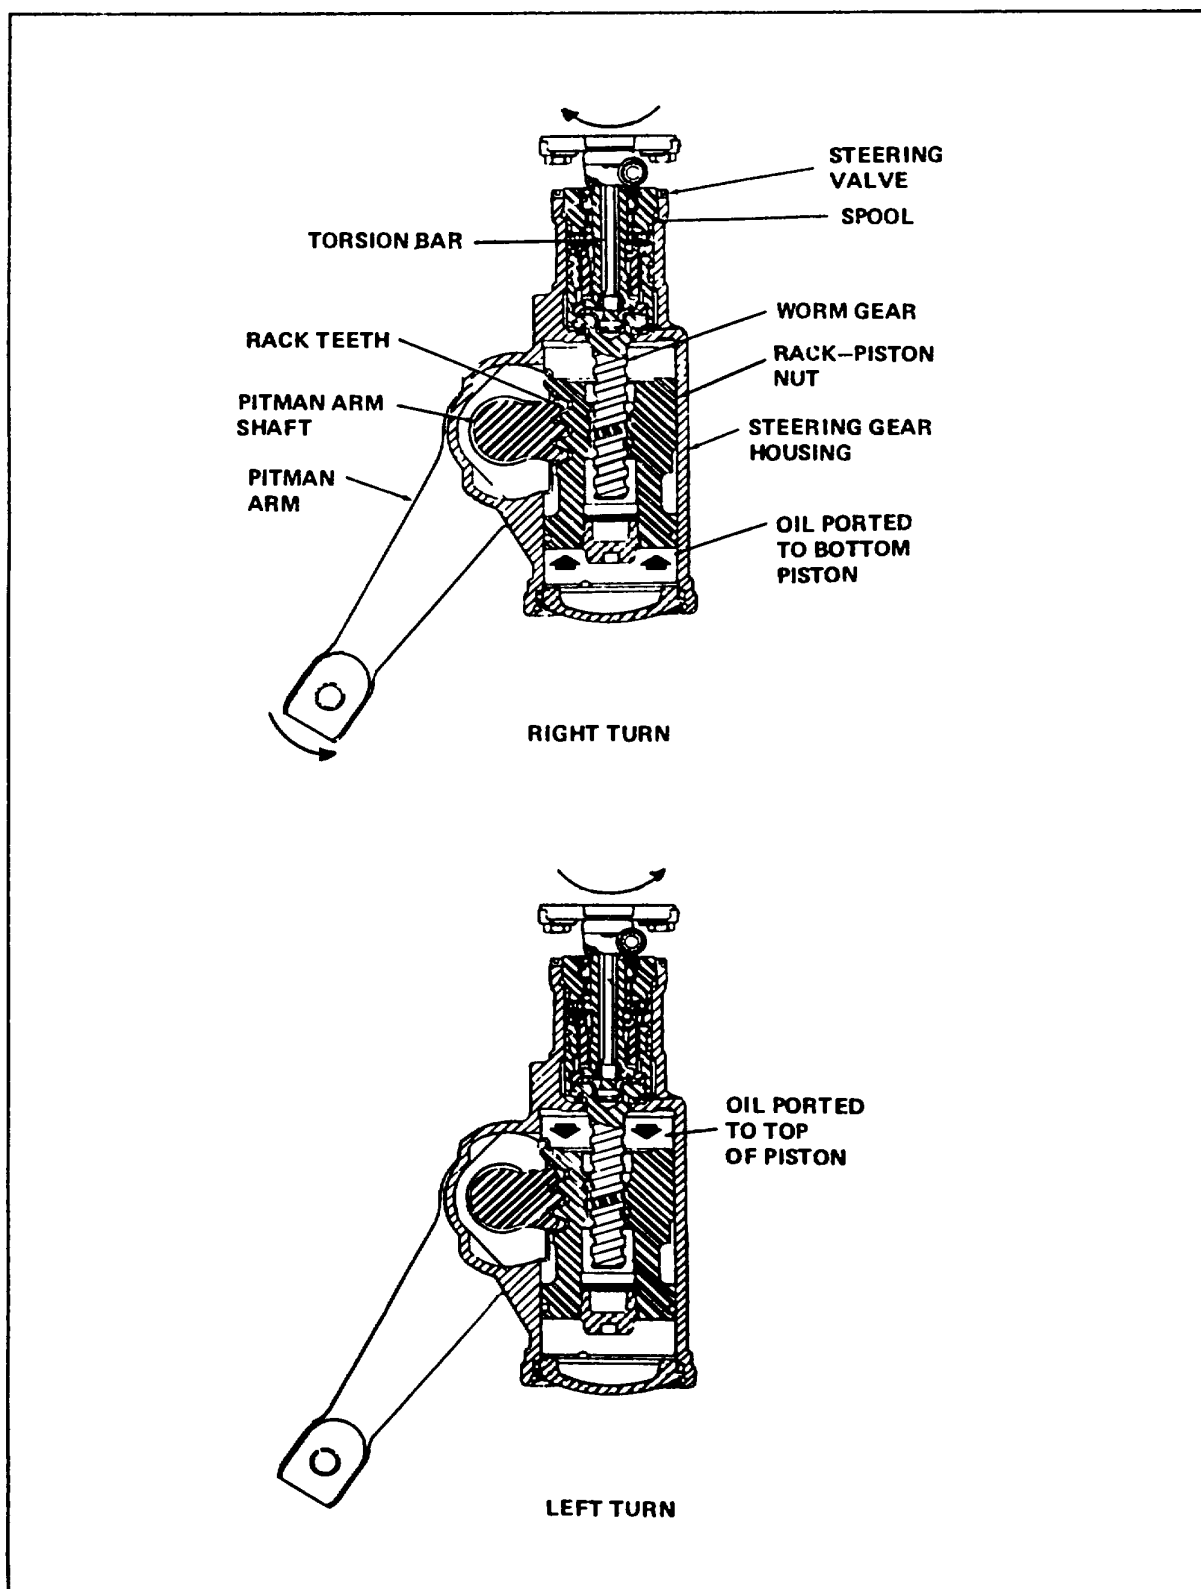

Figure 1-6. Power Steering Gear Operation
**1-21. POWER STEERING GEAR.** The power steering gear unit is basically a Saginaw recirculating ball steering gear to which has been added a torque sensitive valving arrangement, and in which the ball nut has been redesigned to act as a hydraulic piston. The valve (see figure 1-6) is an open-center rotary three-way valve, with a grooved spool to
direct hydraulic pressure as required for either right or left turn assist. The spool is attached to the valve body at one end, and through a torsion bar to the steering gear stub shaft at the other end. Turning the steering wheel will steer the wheels without power assistance, through the torsion bar, spool and valve body, until more than about three pounds pull at the rim of the steering wheel is required. At this amount of resistance the torsion bar twists, shifting the spool in the valve body, to valve hydraulic fluid as required to supplement steering effort in the direction in which the wheel is turned, as diagramed in figure 1-6. Note that the rack-piston nut is geared directly to the pitman shaft. Power assistance is proportional to demand, and ceases when reduction in torsional load permits the torsion bar to return the valve spool to neutral. Hydraulic power is taken from the truck main hydraulic pump via a pressure reducing priority valve on the main hydraulic pump, connected by tubing directly to the steering gear housing.